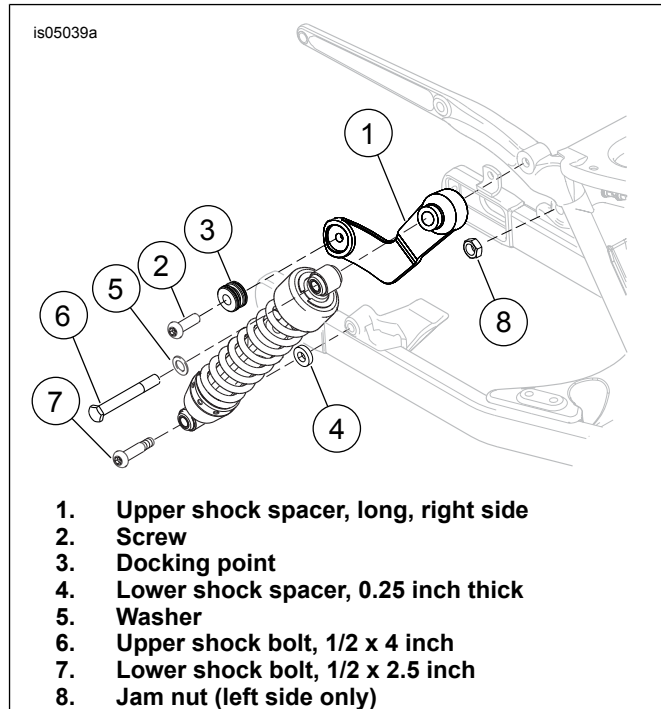

Figure 3. Install Shock Absorber (2006-2007 Models)
1. See Figure 3. Assemble a screw (2) and docking point (3) to each upper shock spacer (1) as shown. Tighten to 28–37 N·m (21–27 ft-lbs).